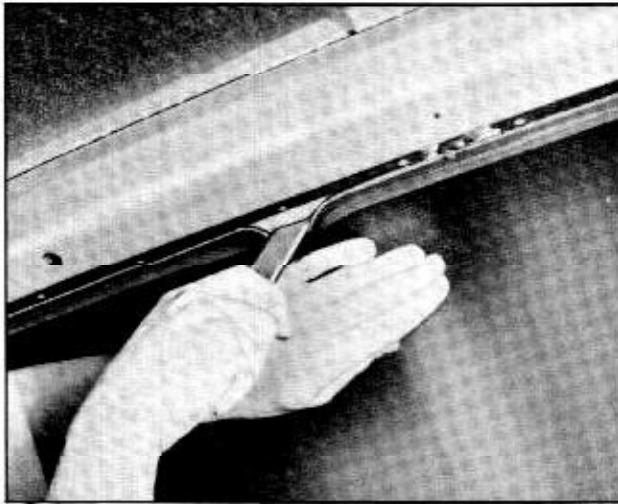

Fig. 17-6 Windshield Glass Removal
7. On inside of body loosen lip of rubber channel from pinchweld flange along top and sides of windshield as follows: With palm of hand, apply pressure to glass near edge and using a blunt putty knife carefully assist rubber channel over pinchweld flange. (Fig. 17-6)
- On inside of body loosen lip of rubber channel from pinchweld flange along top and sides of windshield as follows: With palm of hand, apply pressure to glass near edge (Fig. 17-6), at same time use a blunt putty knife or other suitable tool and carefully assist rubber channel over pinchweld flange across top and sides only.